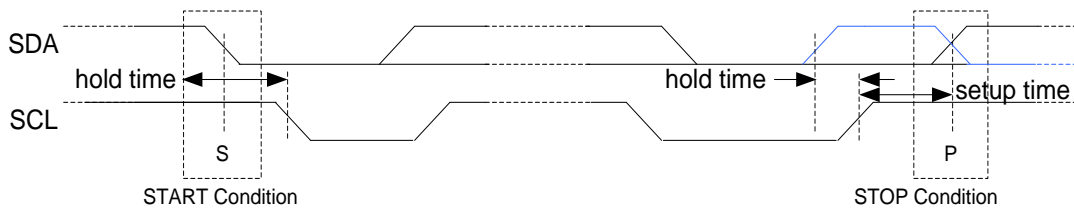

Figure 55. START and STOP (or repeated START, blue line) condition
An idle I²C bus state occurs when both SCL and SDA are not being driven by any master and are therefore in a logic HI state due to the pull up resistors. Every transaction begins with a START (S) signal and ends with a STOP (P) signal. A START condition is defined by a high to low transition on the SDA while SCL is high. A STOP condition is defined by a low to high transition on the SDA while SCL is high. START and STOP conditions are always generated by the master. This slave module also supports repeated START (Sr) condition which is same as START condition instead of STOP condition (the blue-color line shows repeated START in Figure 55).